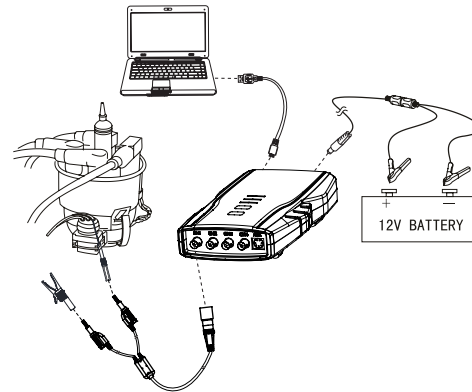

Fig. 46: Equipment connection
1. Connect equipment according to Fig.46, switch on power supply.